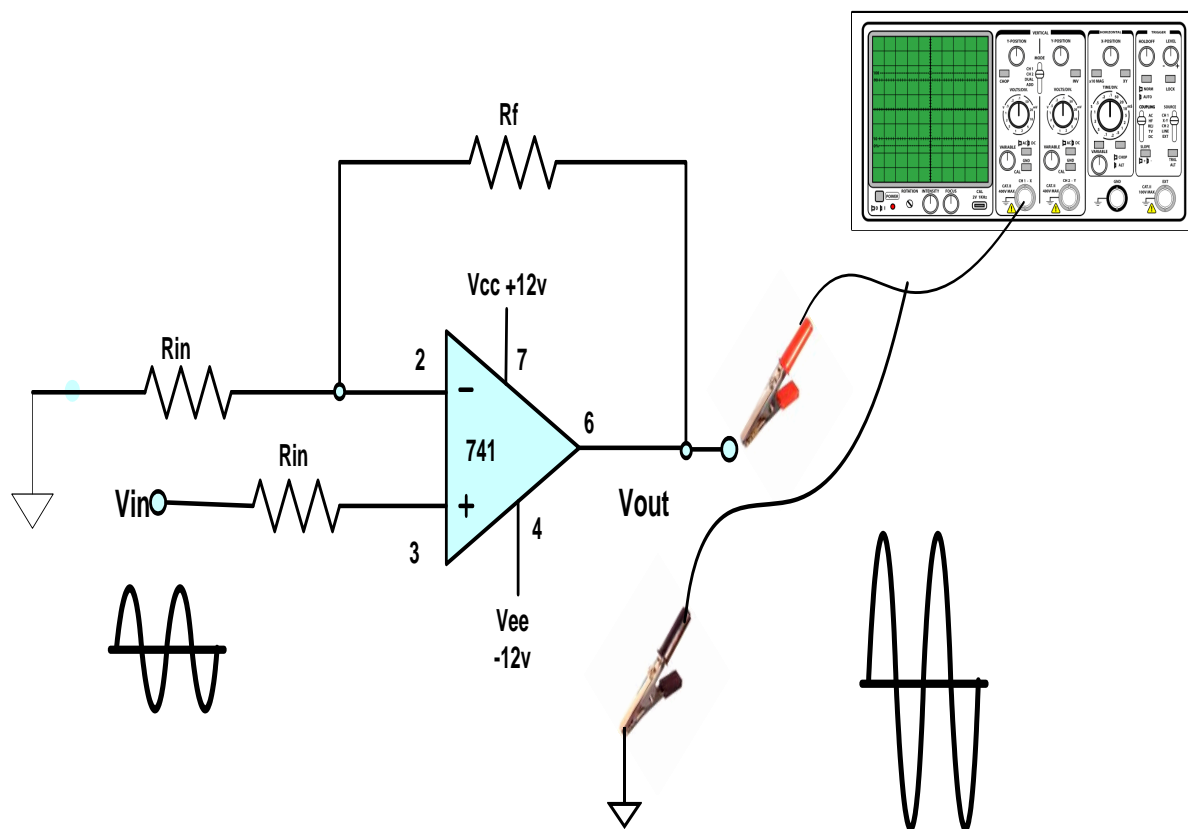

Figure 4.1
5. Connect the circuit as shown in figure 4.1 and switch on power supplies.